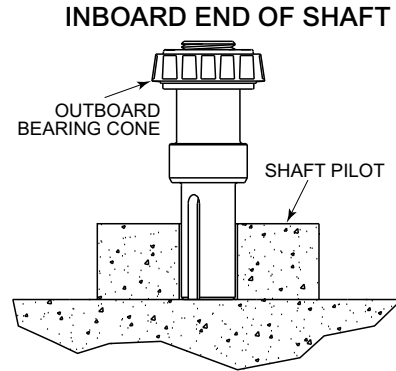

Figure 6.3.5.1 Placing Outboard Bearing Cone onto Shaft
- Place the outboard bearing cone squarely on the inboard end of the shaft with the smaller diameter of the bearing facing inboard. Reference **Figure 6.3.5.1** (next column).